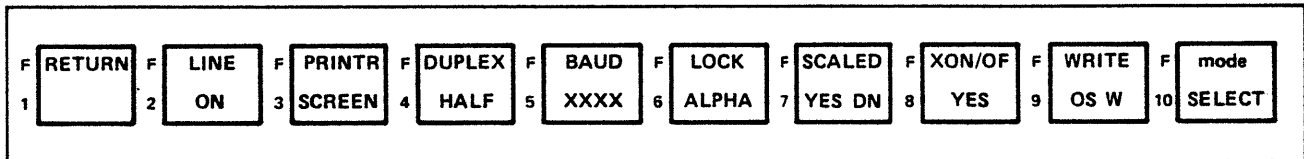

Figure B-5. Operator Parameters
1. Display operator parameters (figure B-5) by pressing the SETUP key.